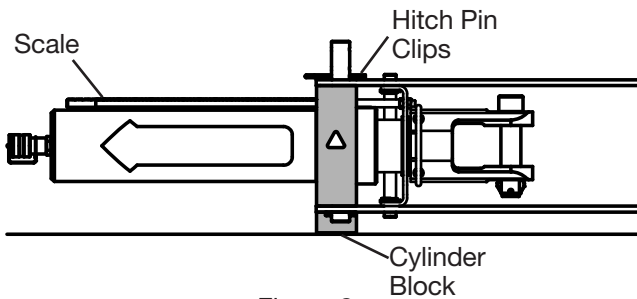

Figure 8
10. Turn the assembled bender onto the cylinder block so the hitch pin clips and ram scale are facing up (Fig. 8). The cylinder block is designed to level out the bender cylinder while bending on the floor.